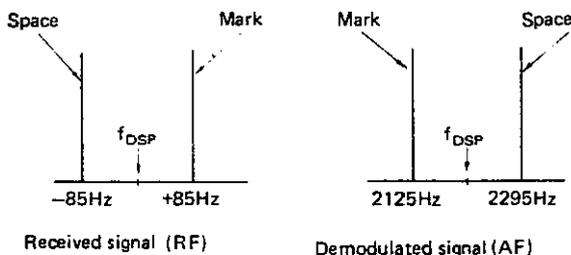

Figure 4.2 Frequency Relation of Received RTTY Signal
- (2) Set the MODE switch (35) to RTTY and the BAND switch (31) to the desired band.
- (3) Slowly rotate the main dial to search for an RTTY signal. Then, adjust the dial so that the demodulated tone becomes about 2210Hz. Further, finely adjust the main dial as observing the indicator on the demodulator.
- (4) Fig. 4.2 shows the frequency relation of the mark and space of a received RTTY signal. These figures show an example of RTTY signal with shift of 170Hz (± 85 Hz). The " f_{DSP} " in Fig. 4.2 is the frequency which is indicated on the frequency display when correctly tuned.